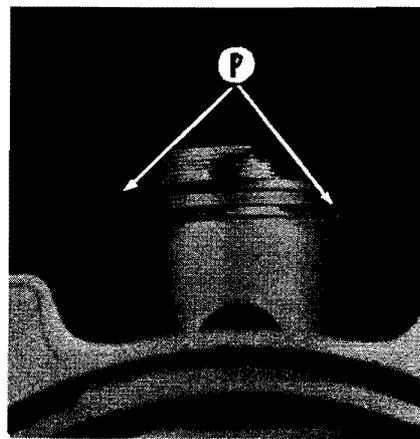

FIG. 2
Replace cylinder base gasket. Push wood support block on gasket. Turn crankshaft back until piston rests firmly on block. Turn piston rings until the peg (P) between the piston ring gaps is visible (Fig. 2). Oil piston and cylinder lining well. Make sure that exhaust and carburetor connections point to the correct side. By means of a piston ring clamp press piston rings into the piston slots. Carefully push the cylinder over the piston. Remove supporting wedge and clamp. Remove disc rings and slightly tighten nuts crosswise. Turn crankshaft once and leave piston on bottom dead center. Tighten nuts. (If cylinder head has been removed, the wider side of the metallic ringed gasket must face upwards towards the cylinder head. Tighten the cylinder head nuts crosswise to 16-18 ft. lbs.)